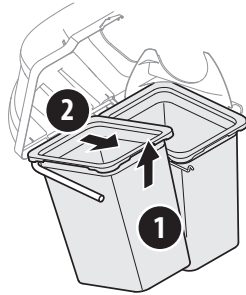

Figure 40
4. Remove the grass bags by lifting these up (1) and moving the bags away from the bag support assembly (2). See Figure 40.